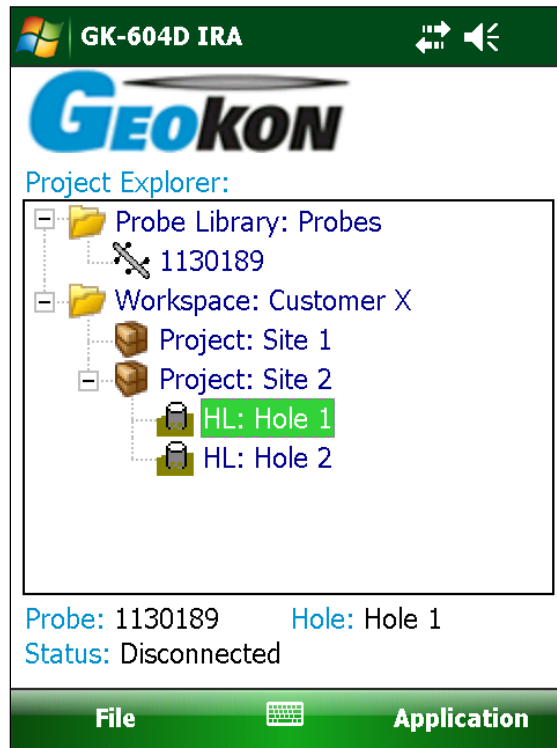

Figure 25 - User Interface
- C) If the window shown in Figure 18 is displayed instead of the Main Window (see Figure 25), please refer to section 2.4, “Starting the Inclinometer Readout the First Time”.
The highest element in the workspace hierarchy tree is a project. Projects allow a GK-604D IRA user to group holes into organizational units based on the user's preference. A project can reflect a specific site where holes have been drilled such as a construction project. This organizational feature makes it easy to find hole configurations along with related data files. The list of holes defined under the project can be viewed by selecting a specific project and expanding its branch in the explorer view (click on + sign preceding project name) (see Figure 25).